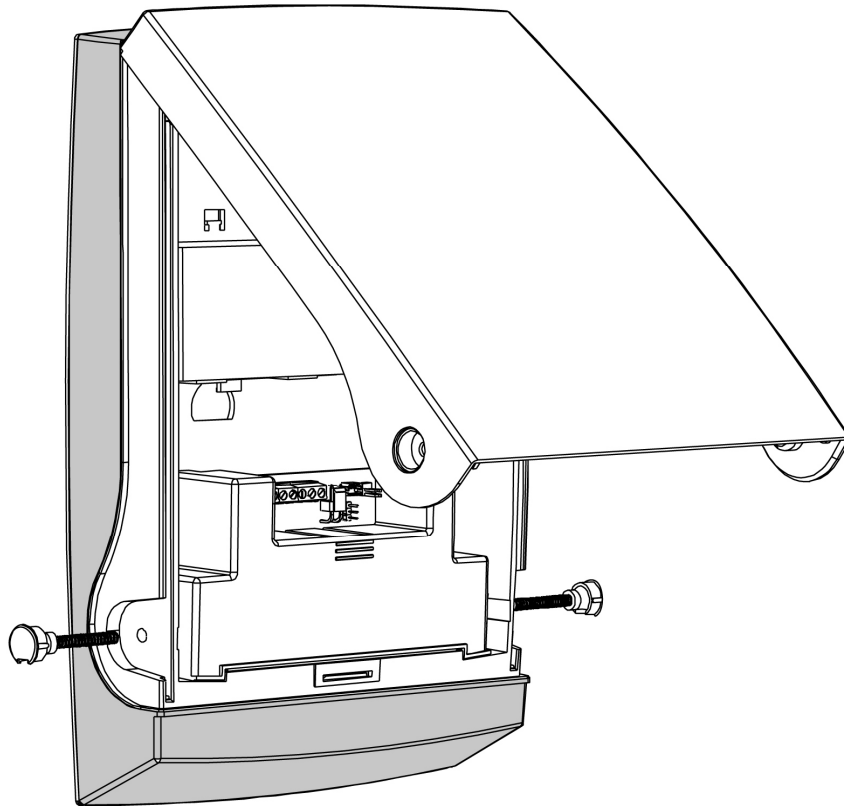

Fig. 2
2. Open the siren housing (1 screw on each side (Fig. 2).
6. Close the cover and close the 2 screws (Fig. 2).